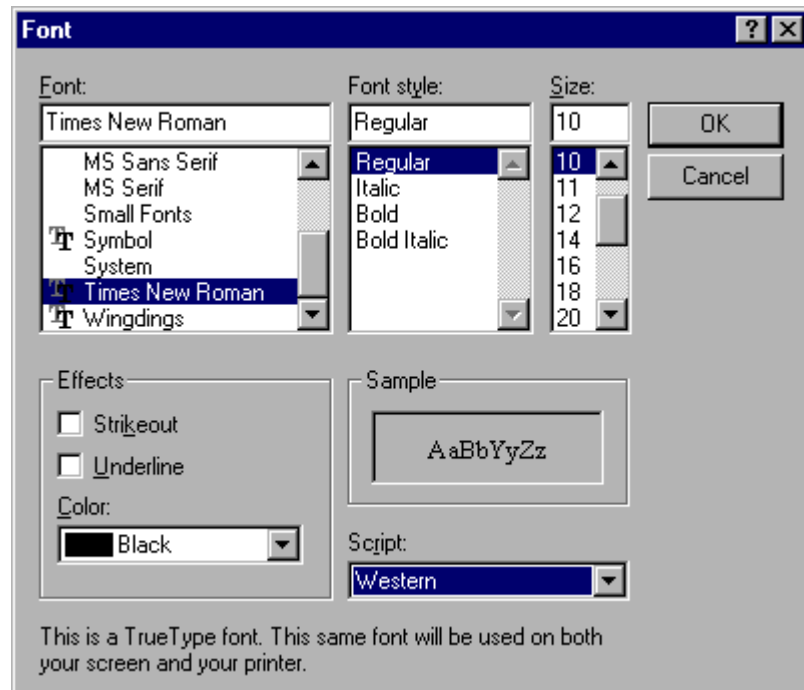

Figure 22-3 [Font] Dialog Box
1. Select [Options] – [Font] – [Edit Window...], or [Options] – [Font] – [Preview Windows...]. The dialog box shown in Figure 22-3 appears.